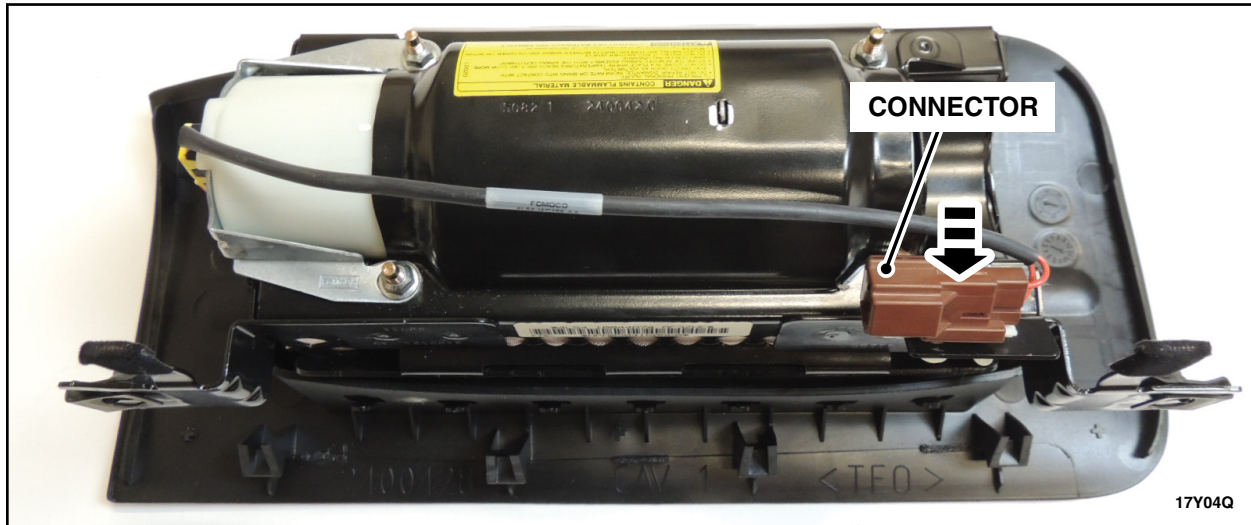

FIGURE 13
14. Install inflator harness connector to the air bag assembly bracket. See Figure 13.